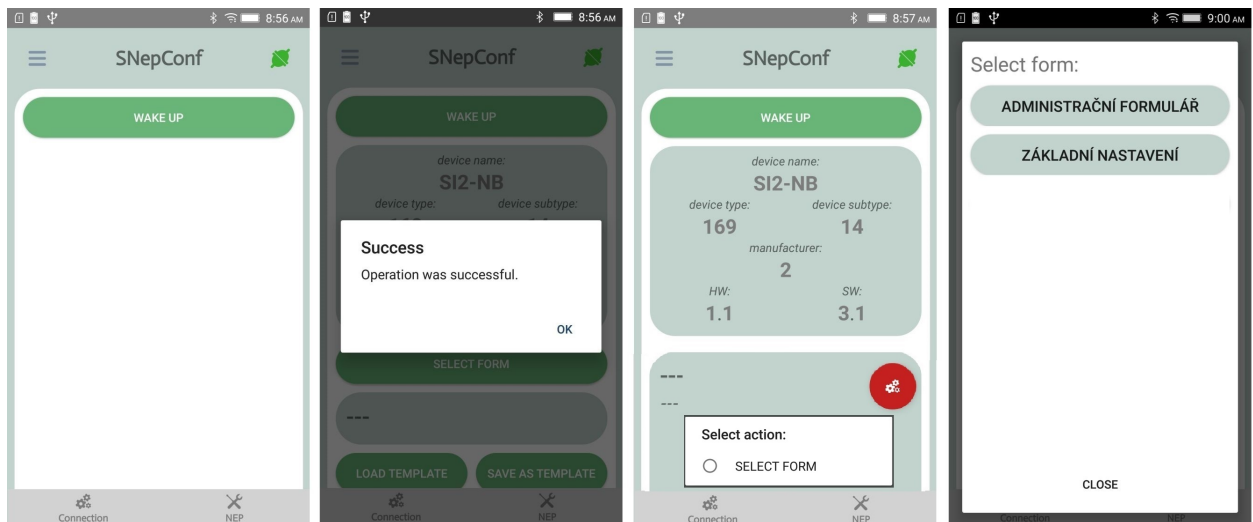

Figure 12: Setting of connection between „SOFTLINK Configurator” application and the module
- tap to the „WAKE UP” button (that will appear) for activation of optical communication with the configured module (see figure 12 very left);
- successful setting of connection through the optical interface is announced by „Operation was successful” window (see figure 12 second from left);
- after that the form with basic module data („module tile”) will appear in the screen of smartphone (see figure 12 third from left);
- tap to „Select action” icon and choose „SELECT FORM” option. The new form with a list of configuration tables („forms”), that are currently available for the module, will open (see figure 12 very right).